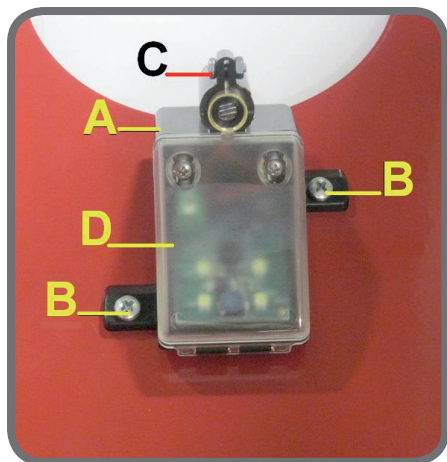

Fig. 20
- Remove the light support (A, Fig.20) by unscrewing the screws fixing the closure plate (B, Fig.20);
- Remove the transparent cover (D, Fig.20) using the two screws fixing the support;
- Either the light support (A, Fig.20) loosening the two screws fixing the closing panel (B, Fig.20), for lateral line movements;
- Or the laser itself by turning it manually in its seat, loosening the support fixing screws (C, Fig.20).